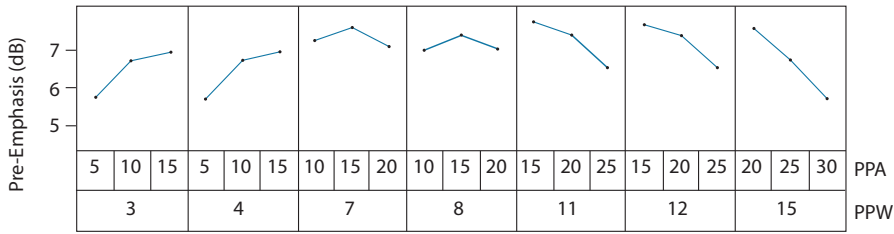
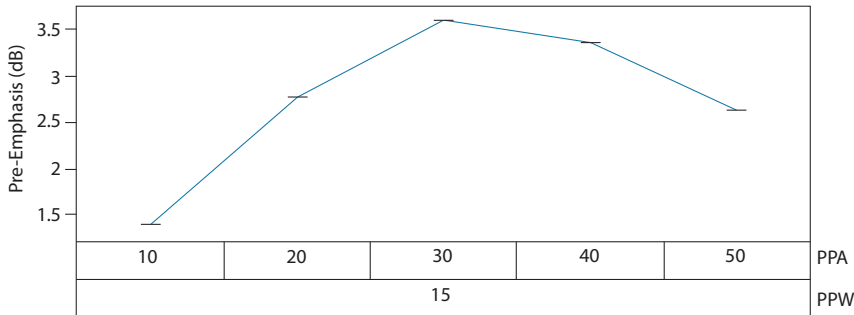

Figure 4-10: Pre-emphasis settings for VCCO__n = 1.2V and DS = 7 (swing = 200mVpp)
Figure 4-17: Pre-emphasis settings for VCCO__n = 2.5V and DS = 35 (swing = 800mVpp)
The only requirement of the trace driver pre-emphasis settings is to minimize ISI introduced by a lossy link and maximize the eye opening at the receiver. The Pre-emphasis compensation of the GS3241 output channel is a two-step process. The first step is to use the settings from Figure 4-10 to Figure 4-17 that best match the insertion loss of the link in the application, while the second step is a fine optimization procedure.
1. Pre-emphasis Amplitude (PPA) Optimization: Set the PPA and PPW to the values obtained from the graph selected out of Figure 4-10 to Figure 4-17, and then measure the downstream jitter. While keeping PPW constant, increment the PPA by 'a'. If the jitter is lower after the first increment, continue to increment by 'a' until the jitter begins increasing or a setting of 50 is reached. If there was a setting which resulted in a lower jitter measurement than the initial setting, that is the Optimized Pre-emphasis Amplitude setting: PPA_{Optimal}, and the PPA optimization procedure is complete.
If incrementing the PPA or decrementing the PPA did not result in a setting with lower jitter, then the initial setting obtained from the graph selected out of Figure 4-10 to Figure 4-17 is the PPA optimized Pre-emphasis Amplitude setting: PPA_{Optimal}.
2. The second step is to set the PPA to the optimized setting PPA_{Optimal} determined in step 1 and PPW to the values obtained from the graph selected out of Figure 4-10 to Figure 4-17, then measure the downstream jitter. While keeping PPA constant, increment the PPW by 'w'. If the jitter is lower after the first increment, continue to increment by 'w' until the jitter begins increasing or a setting of 15 is reached. If there was a setting which resulted in a lower jitter measurement than the initial setting, that is the Optimized Pre-emphasis Width setting: PPW_{Optimal}, and the optimization procedure is complete.
If incrementing the PPW or decrementing the PPW did not result in a setting with lower jitter, then the initial setting value obtained from the graph selected out of Figure 4-10 to Figure 4-17 is the optimized Pre-emphasis Width setting: PPW_{Optimal}.